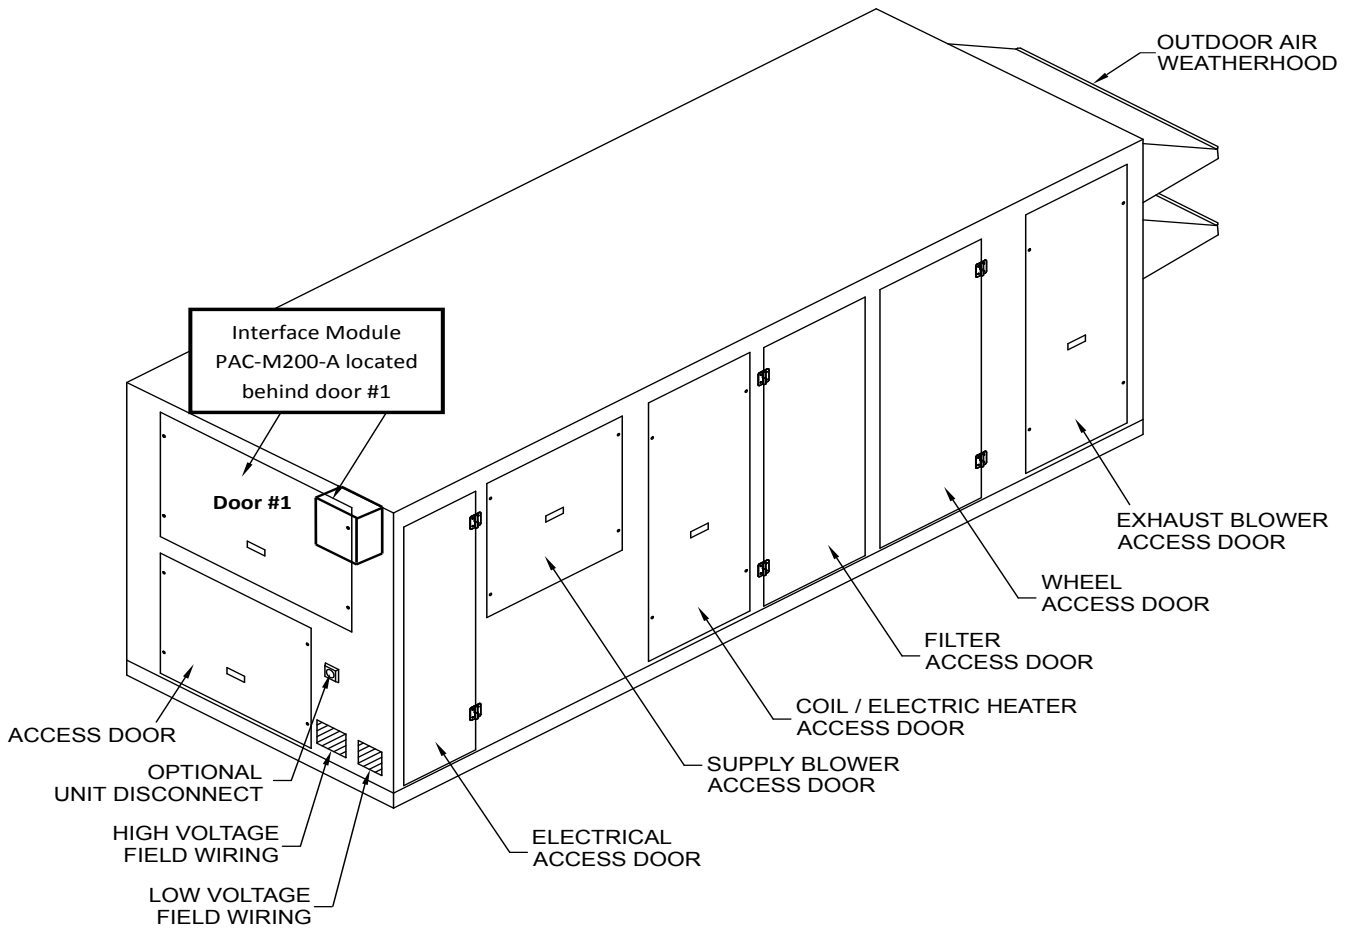

Figure 1. PAC-M200-A M-NET Wiring
- 2) Open Door #1 shown in Figure 1 (PAC-M200-A will be located here).